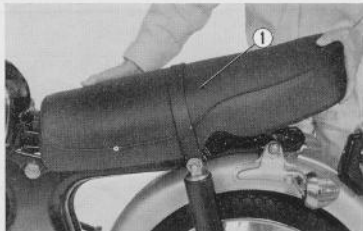

Fig. 4.51 Removing seat ① Seat
- Remove the seat ① by pulling up and back toward the rear. (Fig. 4.51)